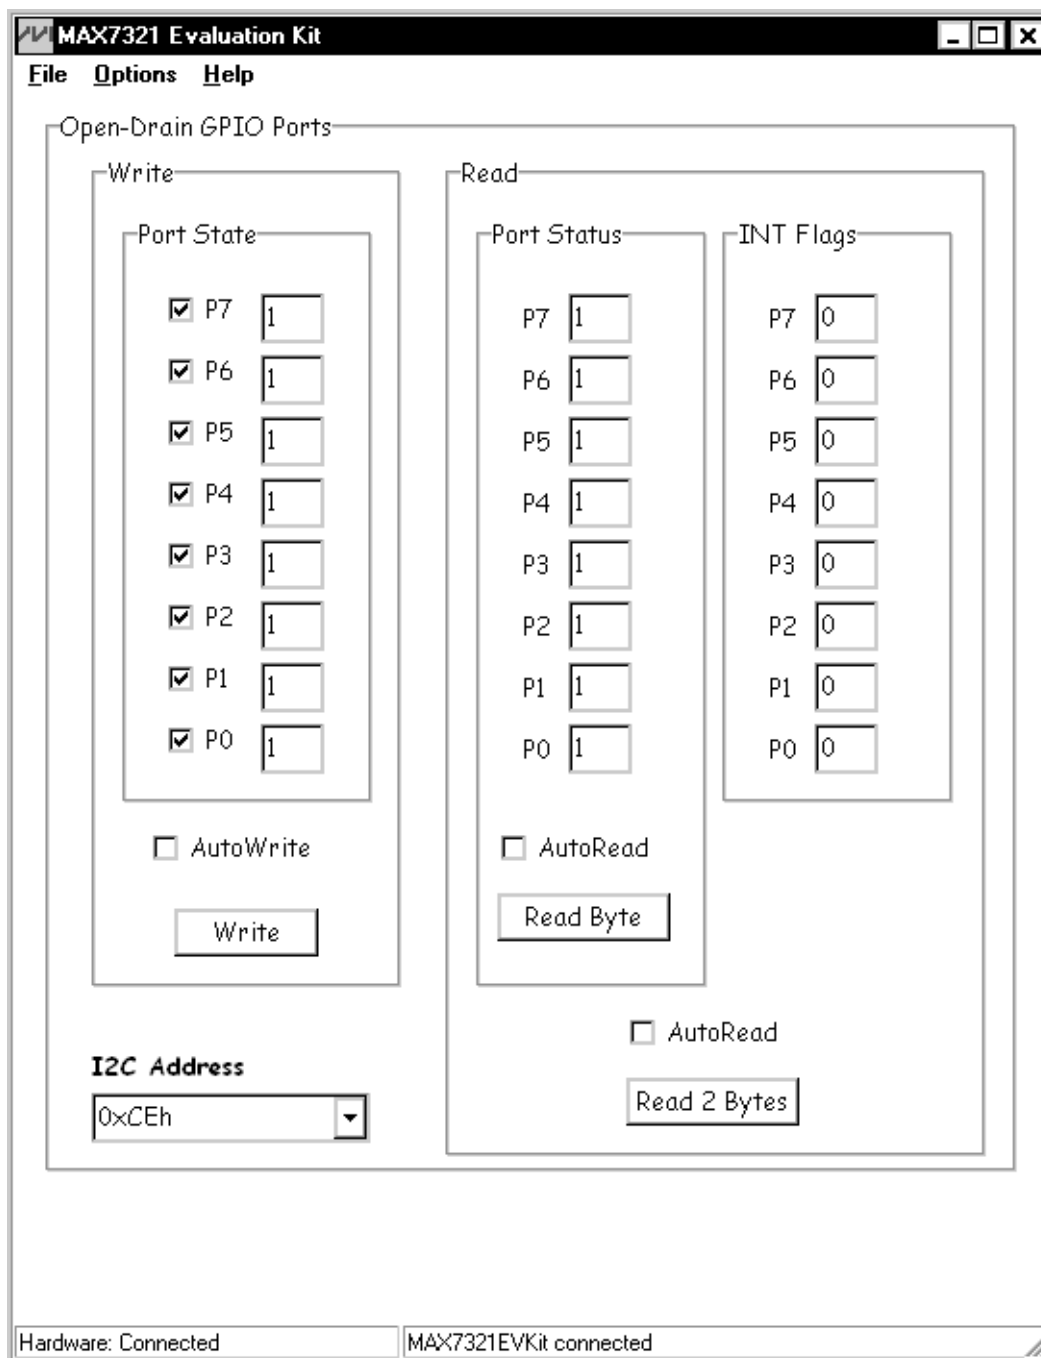

Figure 1. MAX7321 EV Kit Software Main Window
- 6) Start the MAX7321 EV kit software by opening its icon in the **Start | Programs** menu. The EV kit software main window appears, as shown in Figure 1.
The main window of the MAX7321 EV kit is shown in Figure 1.